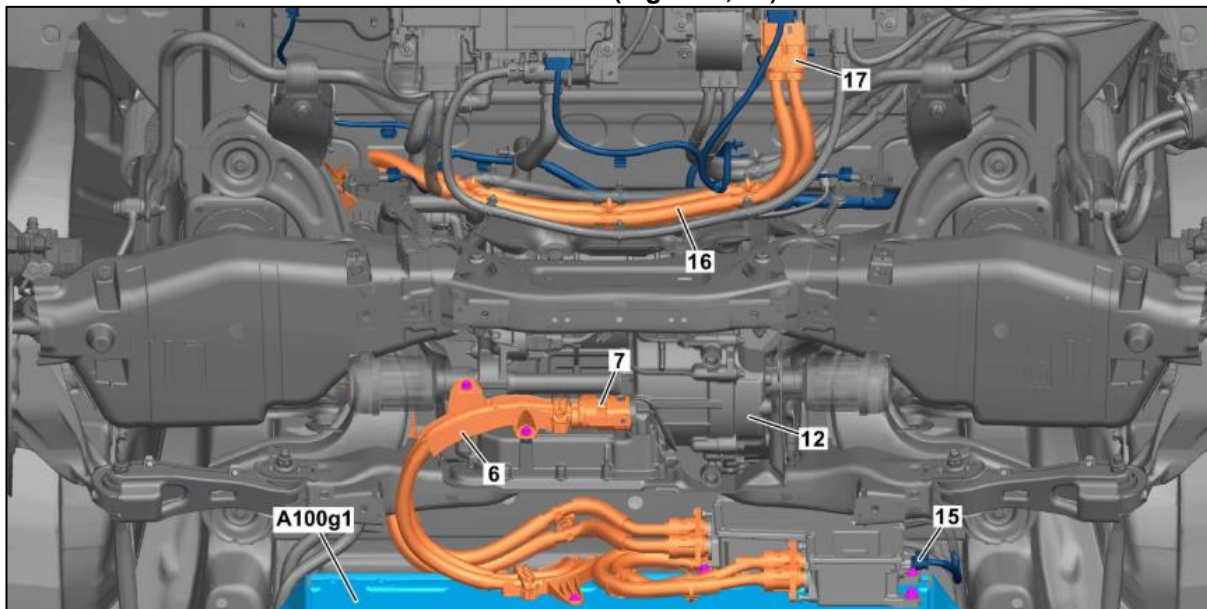

Figure 3
14. Remove HV plug (**Figure 3, 17**), expose HV harness (**Figure 3, 16**) and guide out via rear axle towards the front.
15. Remove holder (**Figure 3, 6**) then HV plug (**Figure 3, 7**) at rear axle drive unit (**Figure 3, 12**).
16. Release and disconnect electrical connector (**Figure 3, 15**).
39. Install holder (Figure 3, 6)
40. Guide high-voltage wiring harness and connector to rear axle plug (Figure 3, 17)